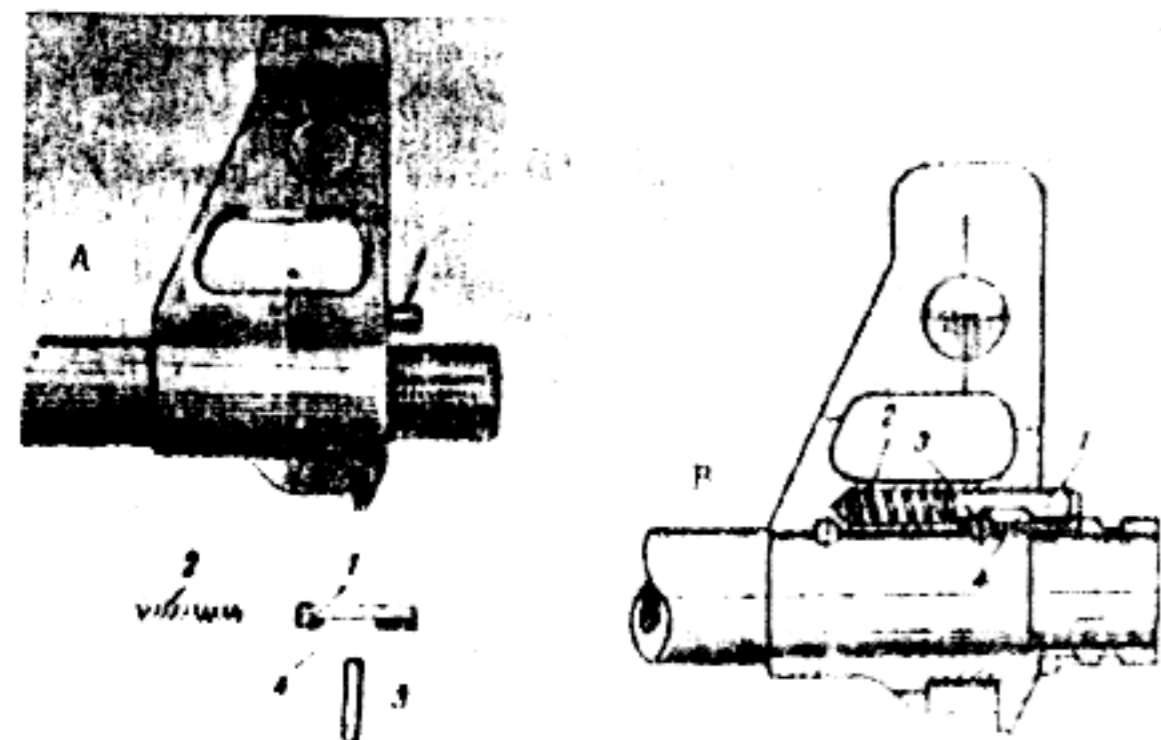

Figure 6. Barrel bushing lock.
The barrel bushing lock (fig.6) is located in a recess in the front sight base and consists of a lock (1), spring (2), and pin (3).